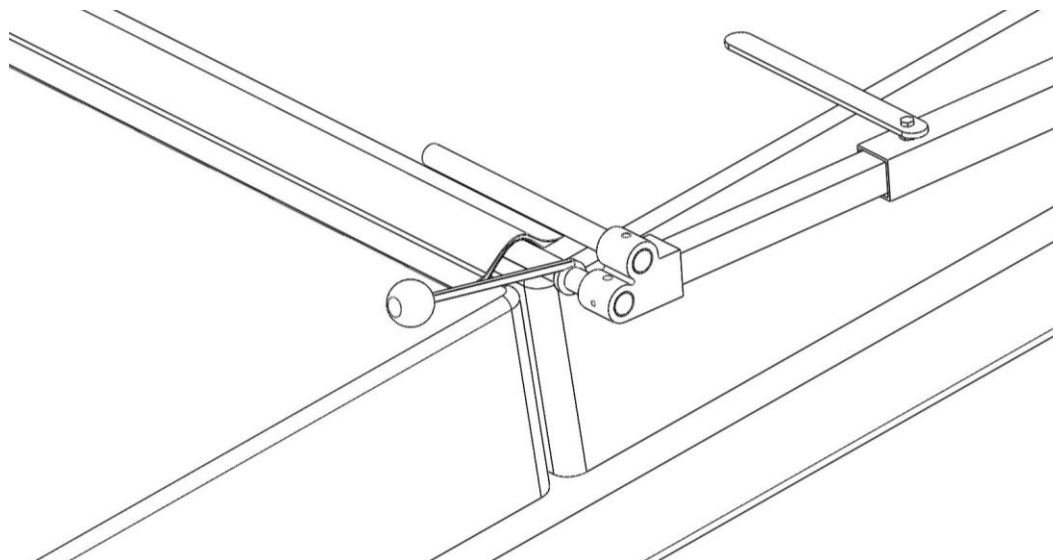

Figure 15
15. Tie the Elastic Ball Strap (cvJ) to the long finger on the same side as the Locking Gas Shock (cvLS) is located. Use the Elastic Ball Strap (cvJ) to help lower the spa cover. **Do Not Pull on the side flaps of the cover.** See Fig 15.